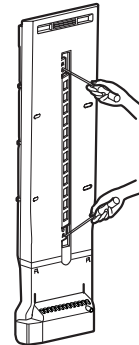

Figure 3
1. Remove the upper and lower caps with a flat screwdriver and remove 2 screws. (Figure 3)